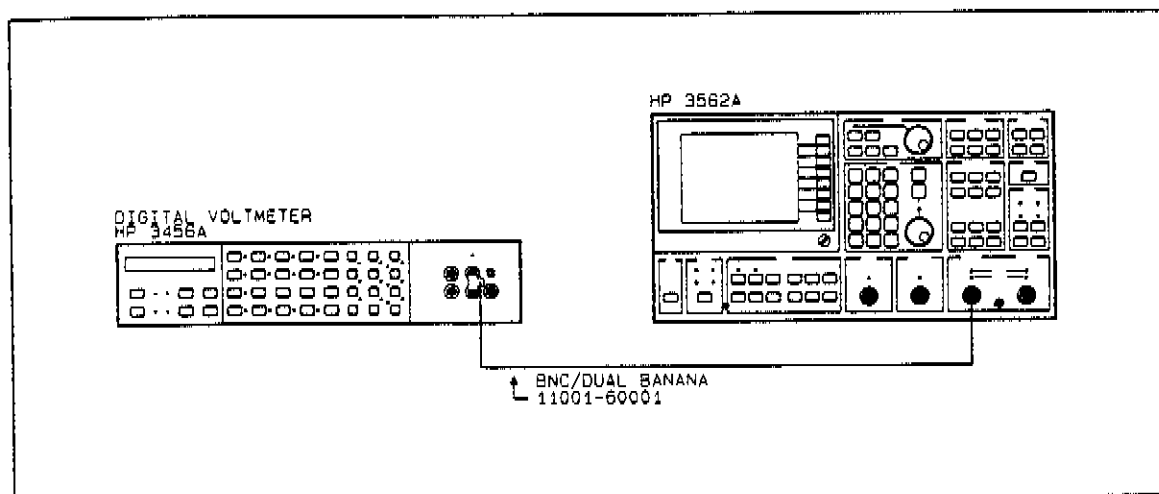

Figure 2-19 Input Resistance Test Setup
- A. Connect the test instruments as shown in figure 2-19. Refer to "Initial Equipment Setup," paragraph 2-20, for unspecified parameters.